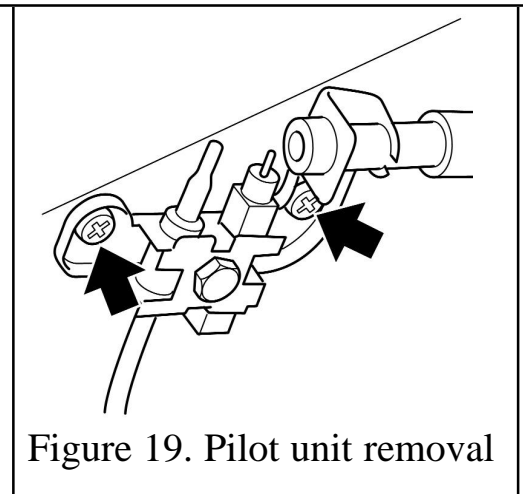

Figure 19. Pilot unit removal
5. Remove the two screws securing the pilot unit (See figure 19).